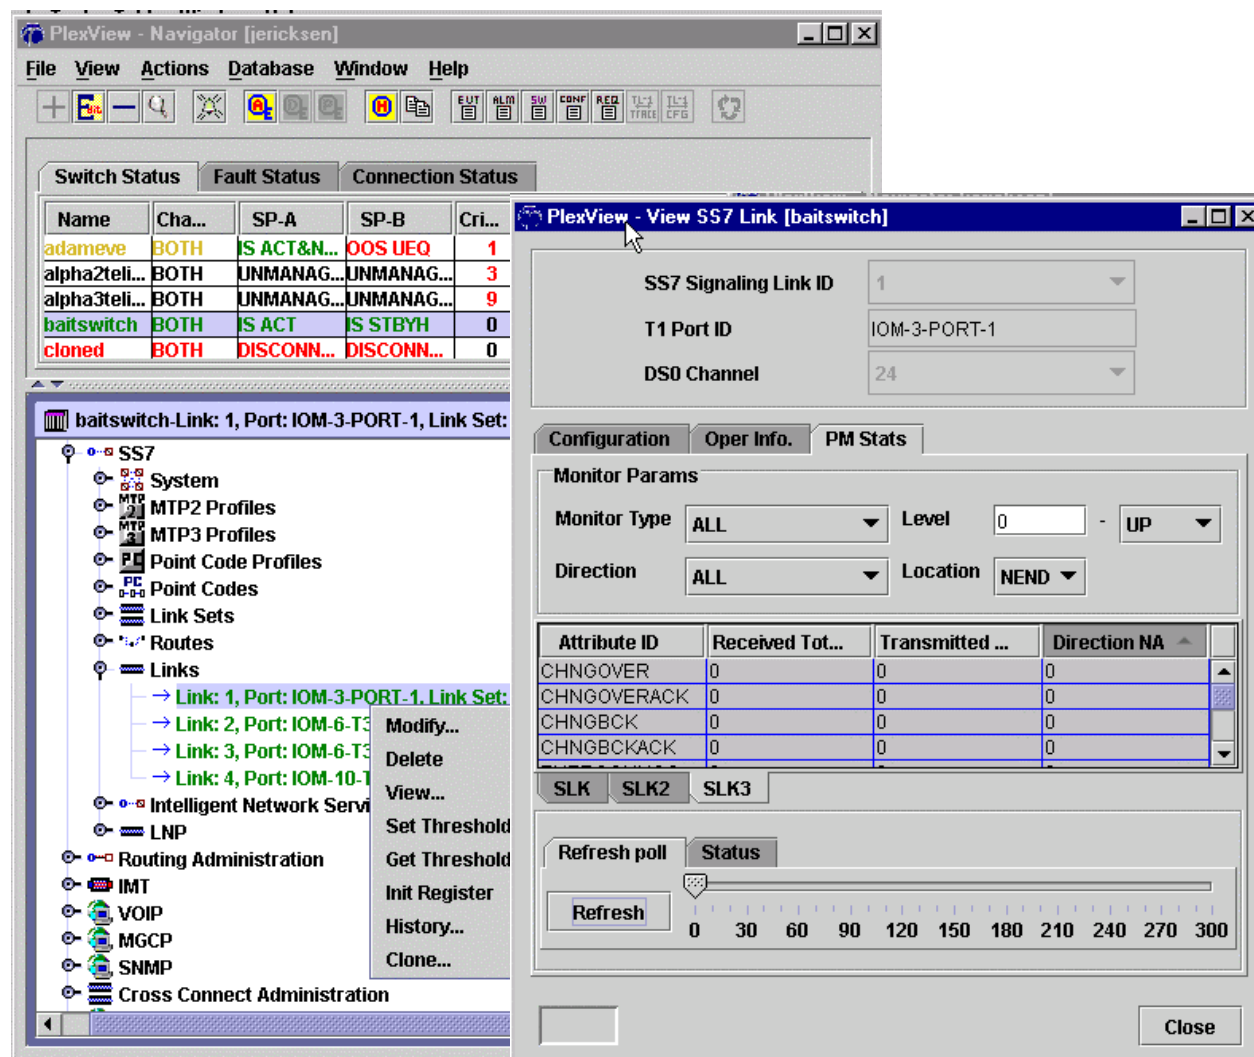

Figure 2. Signaling Link Layer 3 Status
13. Retrieve current and historical performance data for signaling link layer 3 by double-clicking the switch, *SS7* and *Links*. Right-click the *link*, click *View* and then select the *PM Stats* tab at the top and the *SLK3* tab toward the bottom. See Figure 2.
18. Clear or initialize the signaling link layer 3 counters by double-clicking the switch, SS7 and *Links*. Right-click the *link*, click *Modify* and then select the *PM Stats* tab at the top and the *SLK3* tab toward the bottom. Make the desired changes and then click *Ok* or *Apply*. See Figure 2.